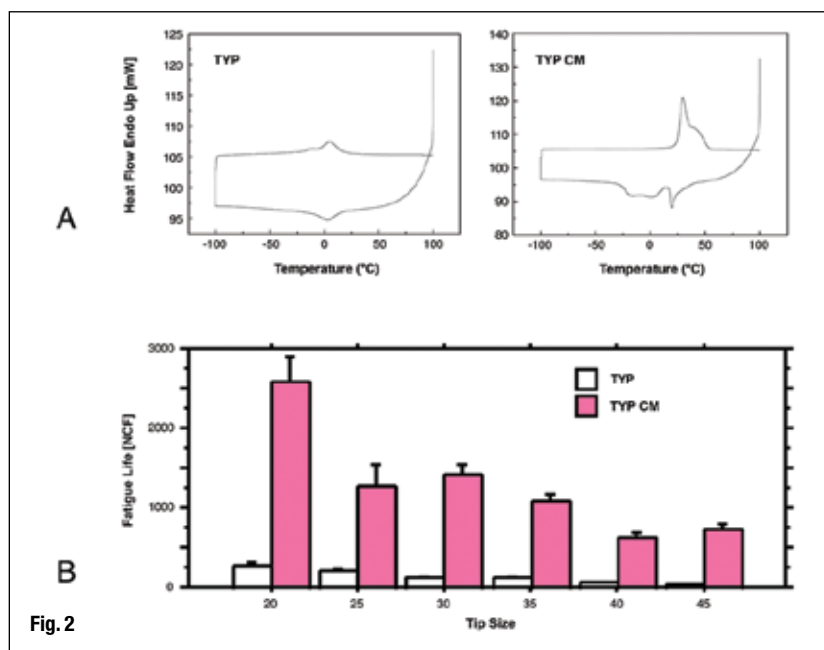

Fig. 2
Recently manufacturers have learned to produce NiTi instruments that are in the martensitic state and even more flexible than previous files. Figure 2 shows how instrument conditions (austenite vs. martensite) are determined in the testing laboratory, using prescribed heating and cooling cycles.⁵ Heat-treated files with high martensite content typically do not have a silver metallic shade but are colored due to an oxide layer, such as gold or blue.
Fig. 2 Behavior of controlled-memory nickel-titanium rotaries compared with standard instruments. Shown are data from Typhoon Differential scanning calorimetry, which document the transition between austenite and martensite at about 5 degrees C for standard NiTi and at about 25 degrees C for controlled-memory (CM) alloy (A). At room temperature, this results in a drastically increased fatigue lifespan (B). Image A modified and reprinted with permission from Shen *et al.* J Endod 2011; 37:1566-1571.